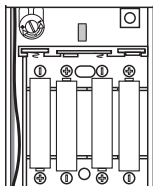

Figure 3
3. **Install 4 “AAA” alkaline batteries (not included).** Make sure batteries are oriented properly (see Figure 3).